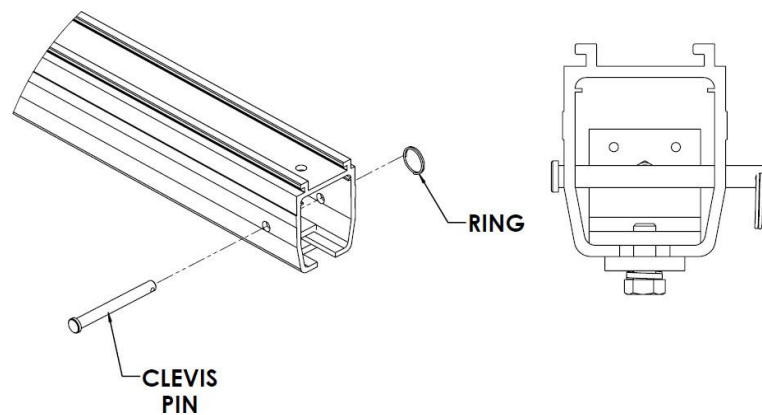

Figure 102: *Clevis Pin and Ring Installed*
- Install the clevis pin and ring as shown in Figure 102.